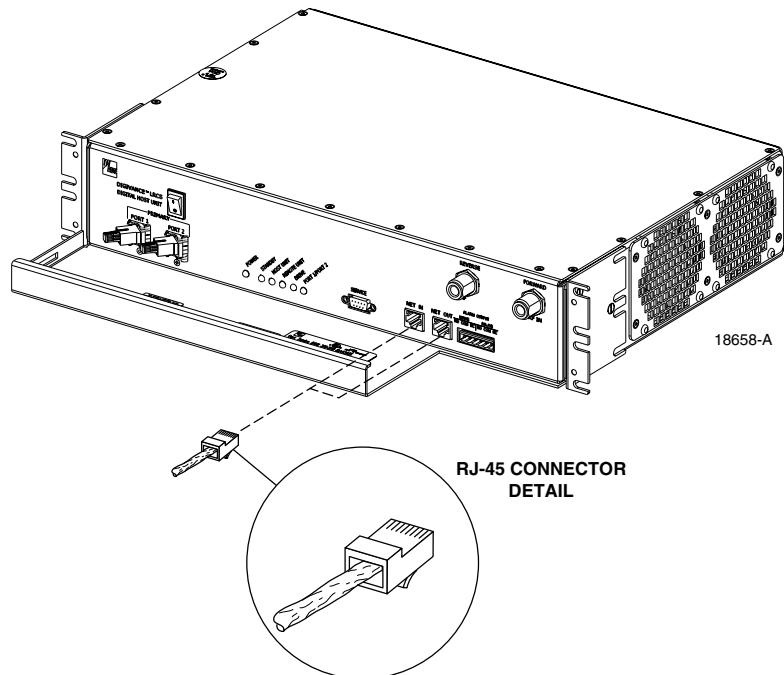

Figure 3-11. Controller Area Network Connections
1. Connect one end of the CAN interface cable (accessory) to either the NET IN or NET OUT port on HU #1 as shown in Figure 3-11.